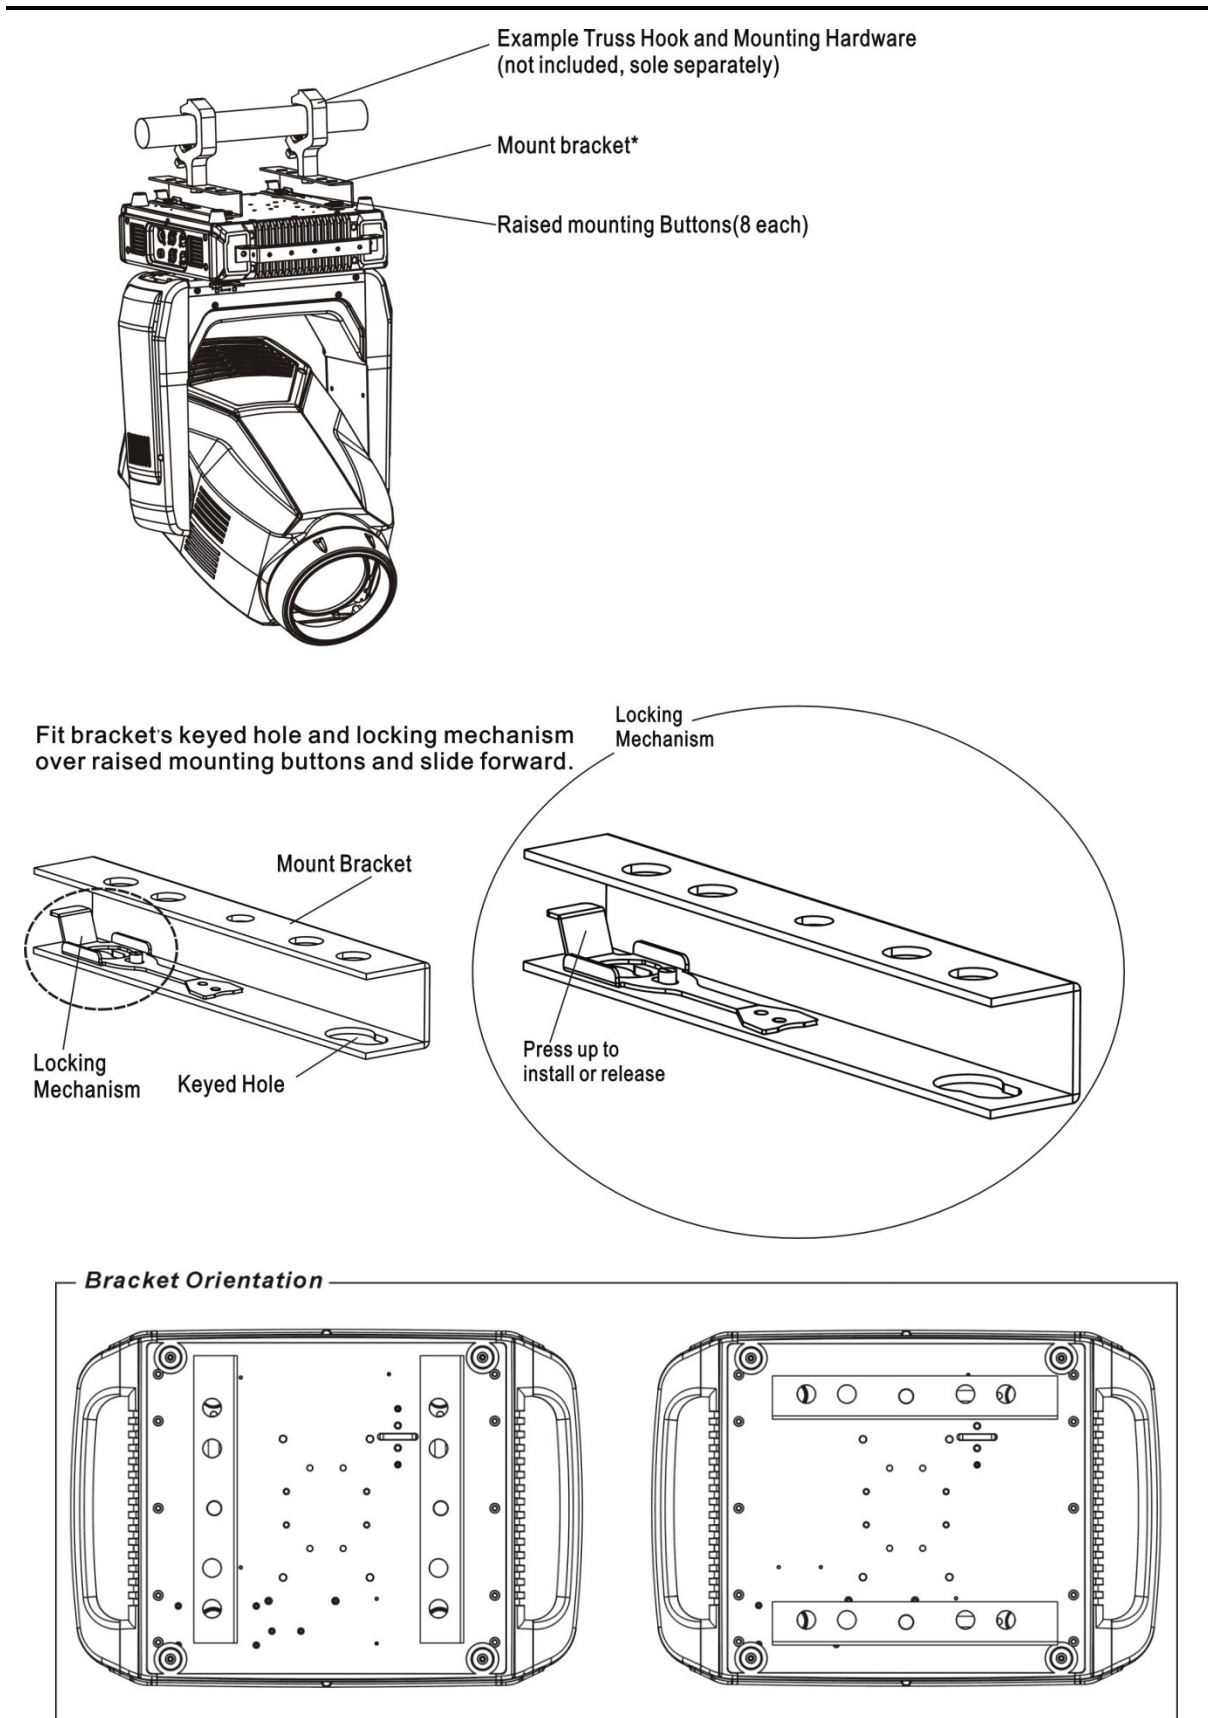

Figure 5: Installing Brackets on Luminaire Enclosure
Step 2. Determine required configuration of bracket installation. Brackets may be installed in many different orientations as shown in **Figure 5**.